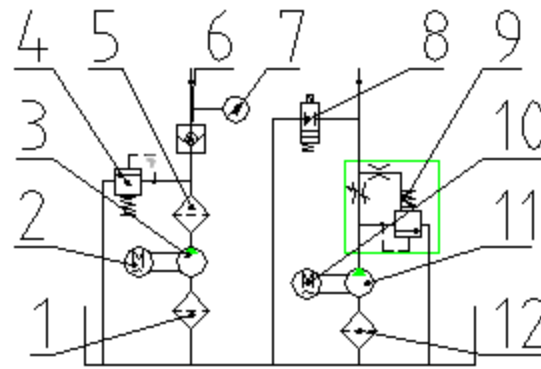

Figure 3 Oil source schematic diagram
As shown in Figure 3, the engine oil source has two sets, sharing one oil tank. One set is a static oil source supplied by a gear pump, consisting of 1-7; the other set is a loading oil source supplied by a plunger pump, consisting of 8-12. The motor (2) drives the gear pump (3) to press the hydraulic oil through the mesh filter (1), the paper filter (5) and the one-way valve (6) into the diverter block of the piston part of the oil cylinder. The static pressure is regulated by the relief valve (4) and indicated by the pressure gauge (7). The motor (10) drives the plunger pump (11) to press the hydraulic oil into the oil cylinder through the mesh filter (12). The overflow throttle valve (9) is used to adjust the rising rate of the piston, and the solenoid valve (8) is used to quickly unload.